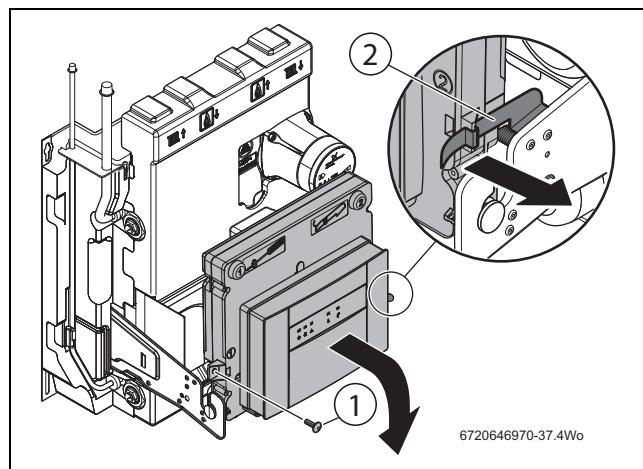

Fig. 54 Tilting the control unit forward
- Undo the retainer screw and lower the control panel. (Fig 54, Page 49)